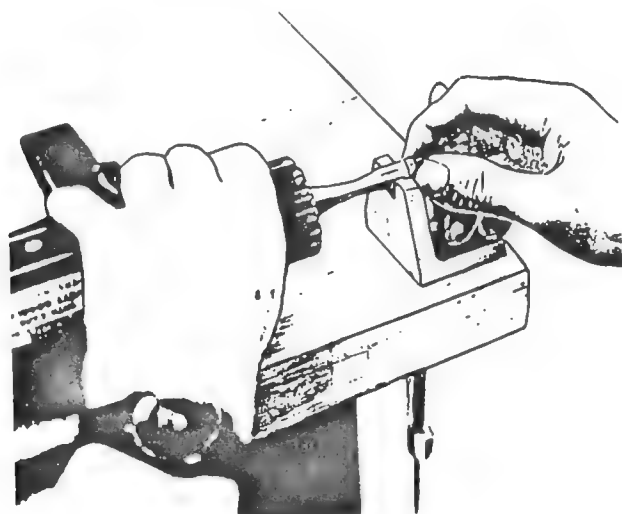

Figure B-2.2
- d. Screw blade holder into end of the converter (See figure B-2.2.)
- e. Grip sides of the blade carefully and seat the blade in the slot of blade holder. (figure B-2.2) Fully engage blade so bottom of blade is touching and square with bottom of slot.